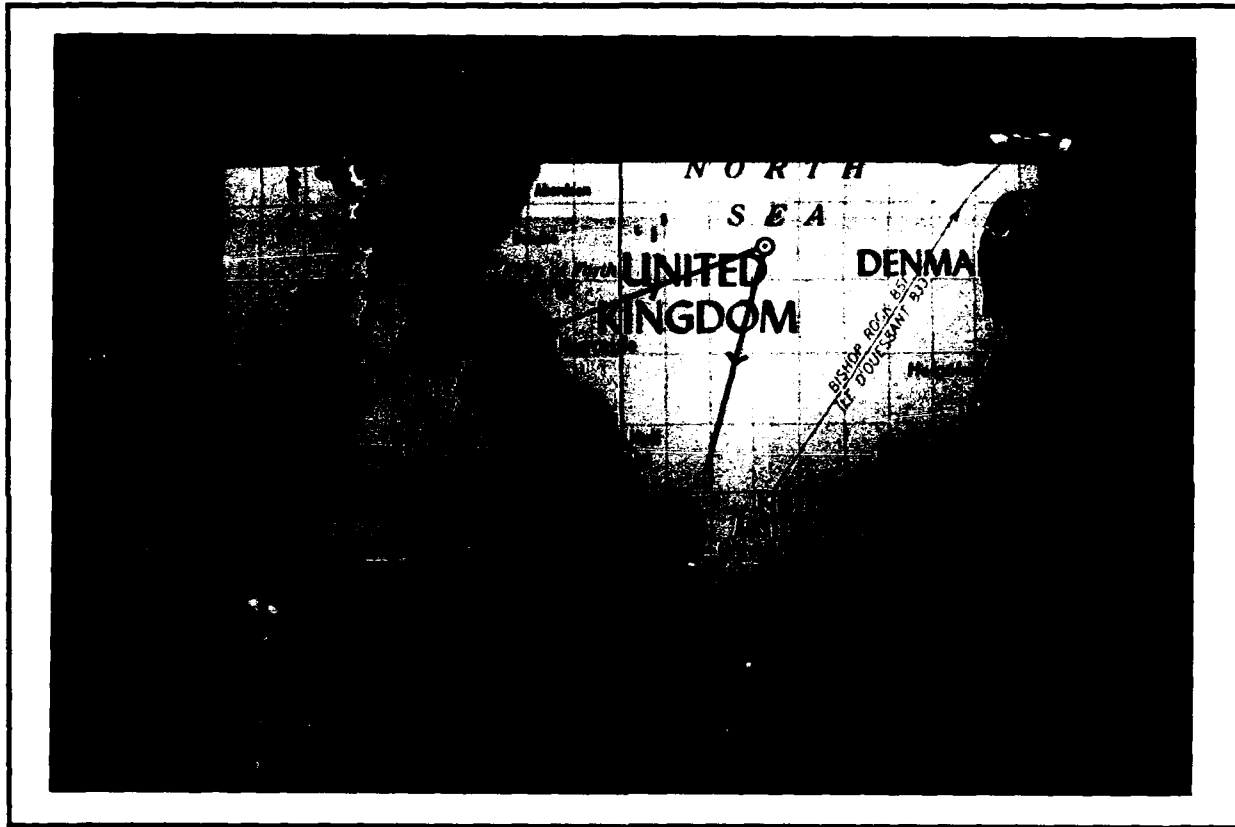

Figure II.1-6 CMFR Menu Displaying Entire Route
12. We will now review the Combat Mission Folder (CMF). TIPS produces CMF output roughly in accordance with USAFR 55-125. To review the CMF, we go to the Combat Mission Folder Review (CMFR) menu. Position the cursor in the CMF REVIEW command box on the RGEN menu and click the mouse. The CMFR menu with a picture of the entire route is displayed (Figure II.1-6).
17. Review the combat mission folder. Next, we might want to go into the CMFR (combat mission folder review) menu (Figure II.1-6) to look at and print out the route. To do this from the RGEN menu (which we are now in), position the cursor on the CMF REVIEW command box and click the mouse. The CMFR menu will then display a picture of the entire route.